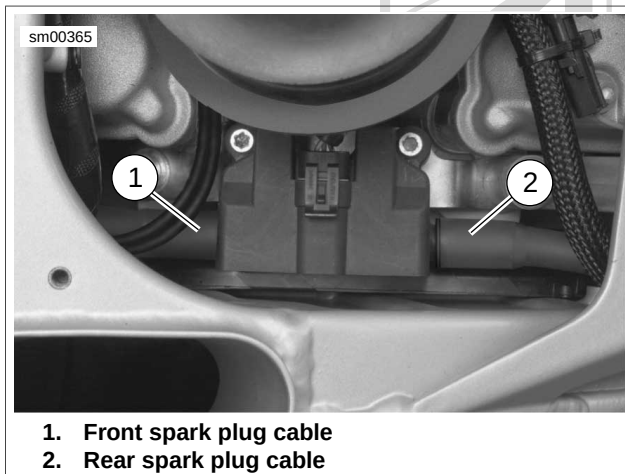

Figure 7-14. Spark Plug Cable Location
3. See Figure 7-14. Disconnect spark plug cables (1, 2) from ignition coil and spark plug terminals.